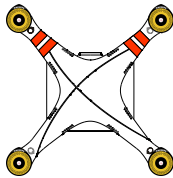

Fig.1
- (Fig.1) Remove the four warning cards from the motors after you read them.